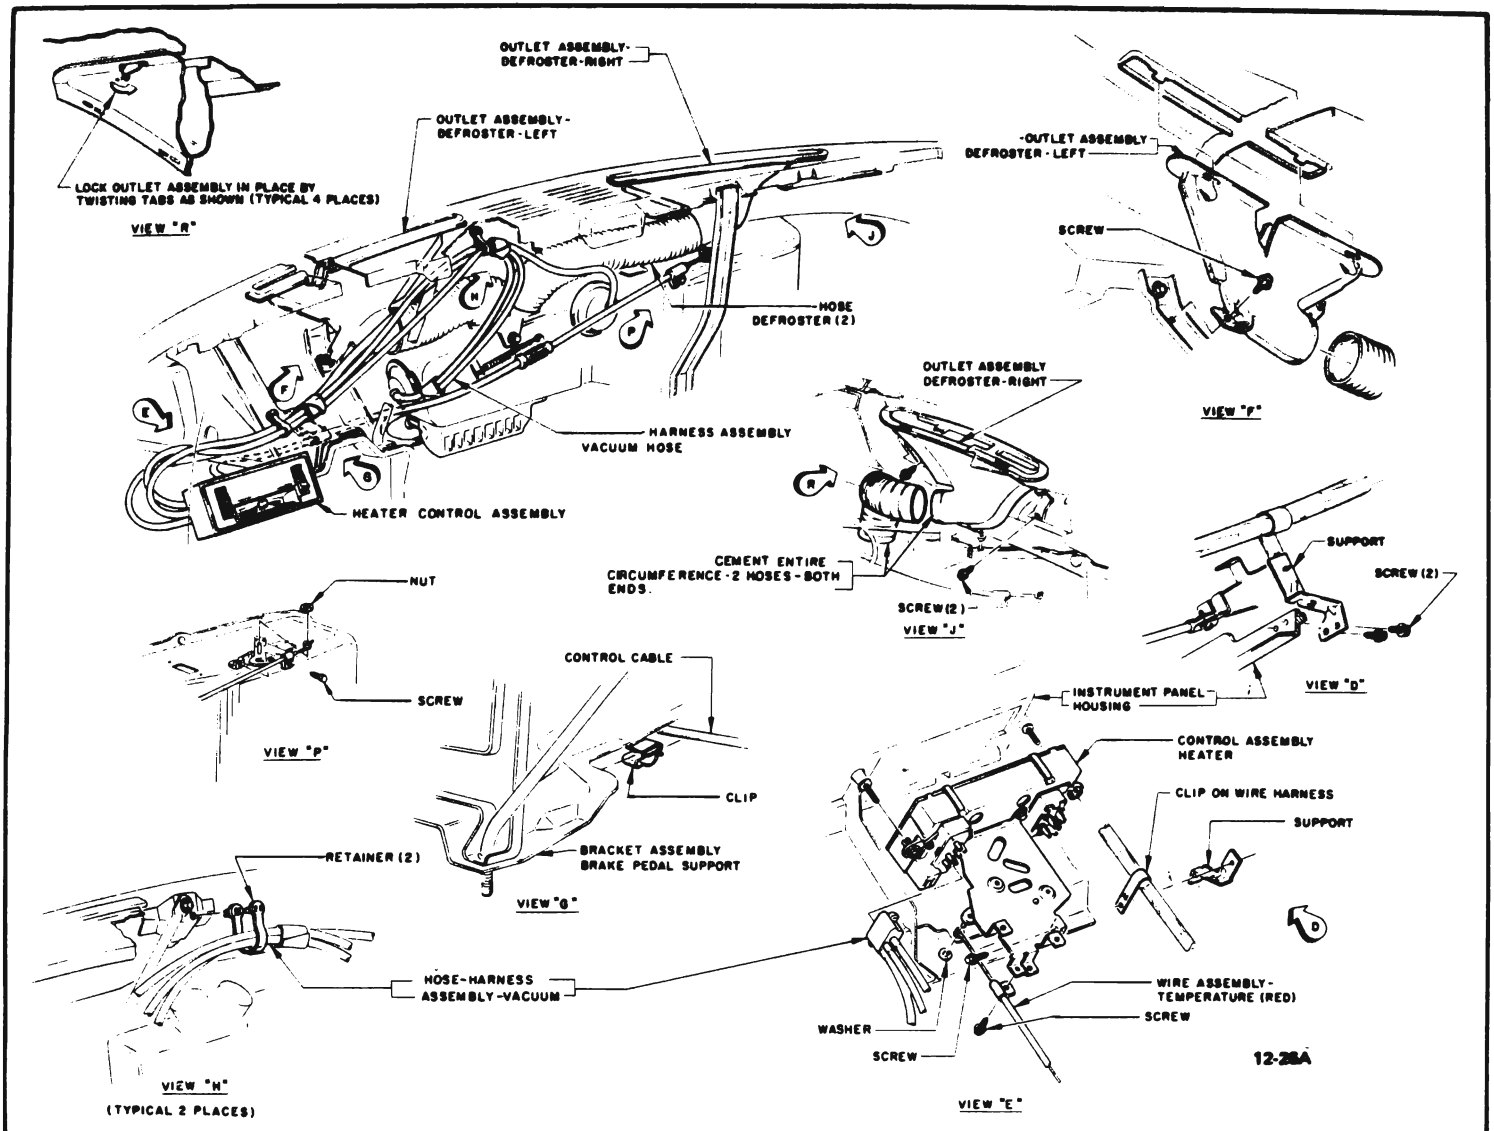

Figure 12-10 Heater Control Wire and Defroster Hose Installation
To adjust, position the TEMPERATURE lever to the "COOL" position and rotate the control cable adjuster nut until equal springback is obtained at both ends of lever travel. See Figure 12-10.
3. Heater Control Assembly - The heater control assembly (see Figure 12-10) consists of three controls, namely the TEMPERATURE lever,